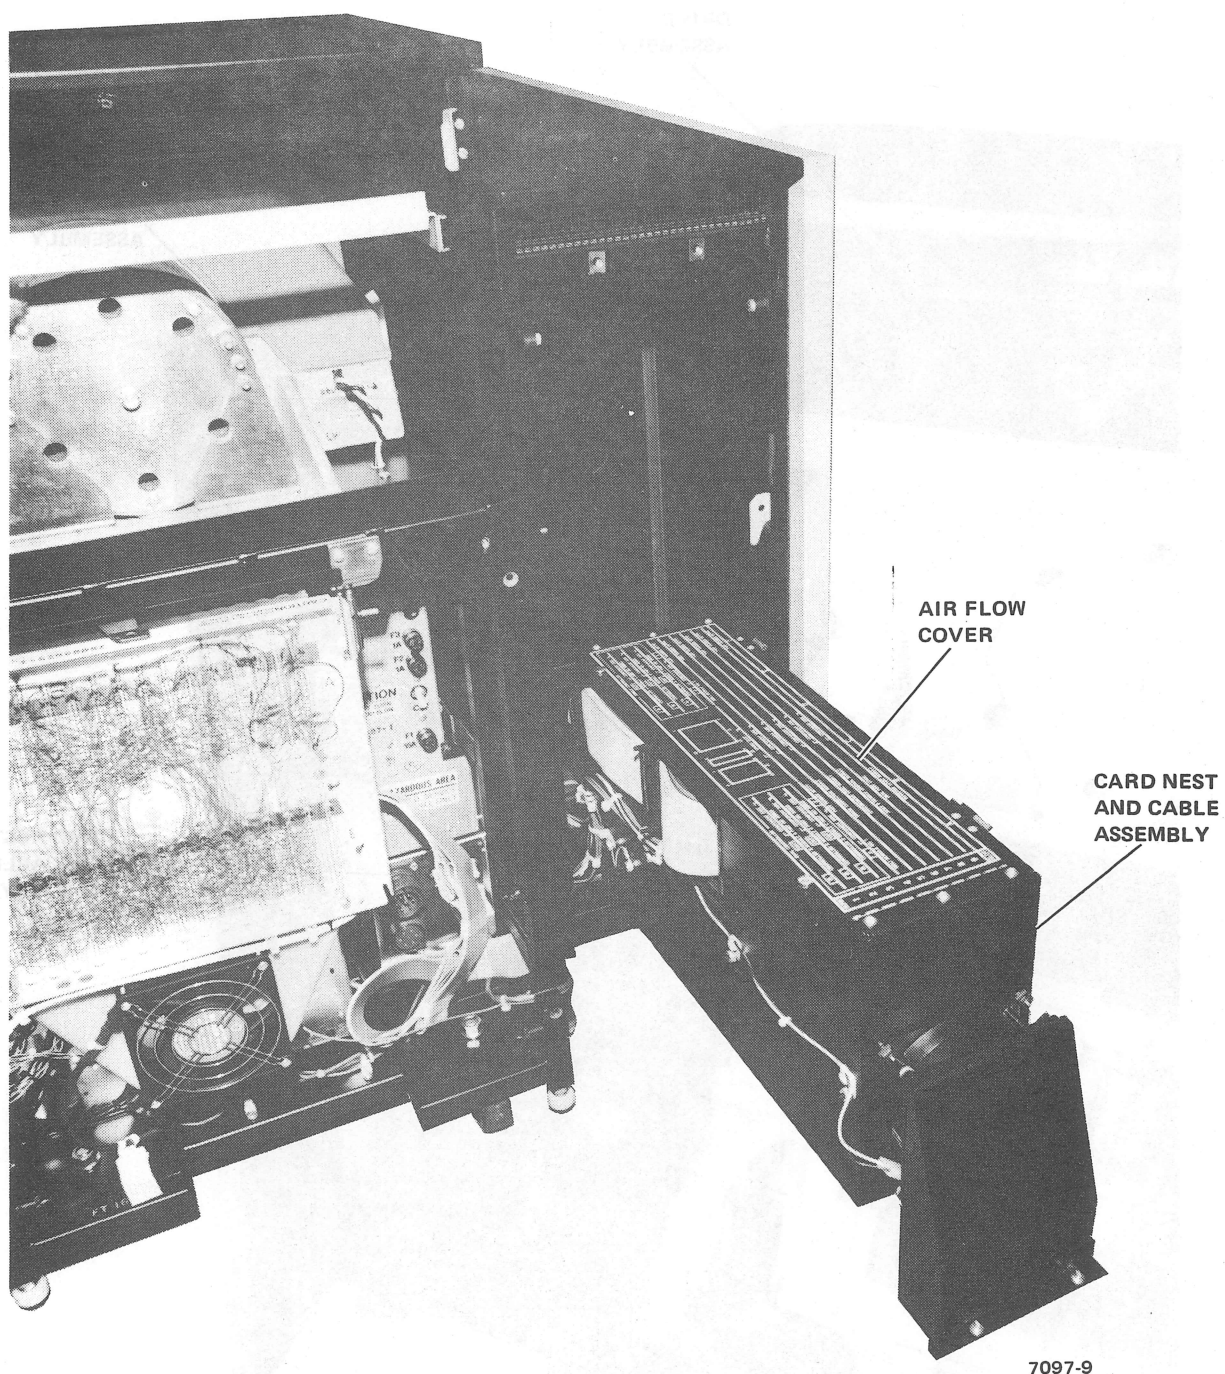

Figure 2-2 DCL Rear View, Card Nest and Cable Assembly Extended
2. Loosening the two fastener screws (Figure 2-2) on the air flow cover and swinging the cover to the vertical position. This exposes the hex and interface printed circuit boards (PCBs).